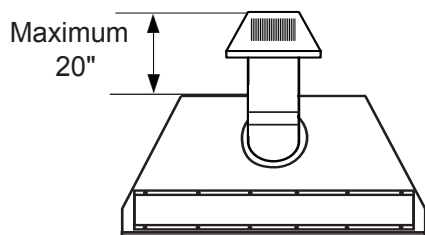
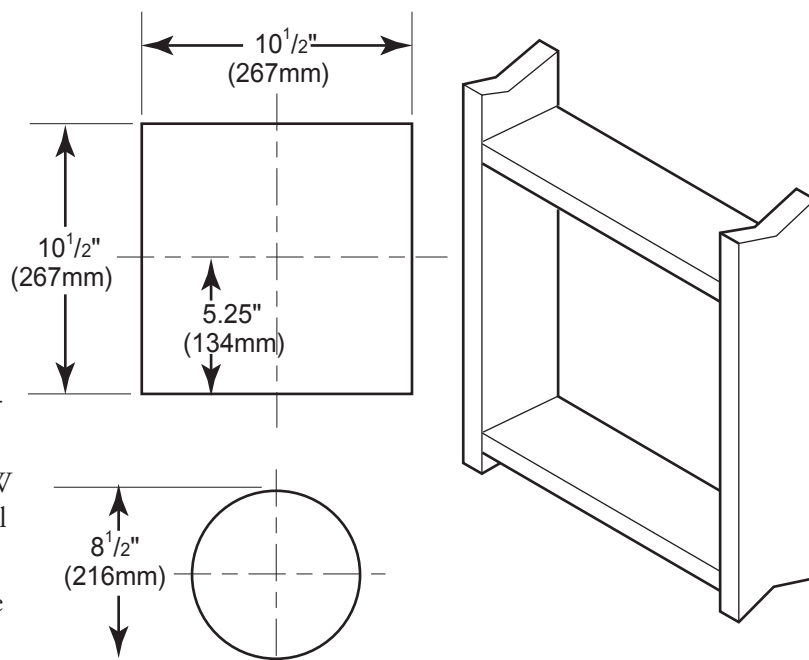

Figure 11 - Rear Vent Application, Maximum Horizontal Distance with two foot minimum rise
Figure 12 - Vent Opening Requirements
The maximum horizontal distance between the rear of the appliance and the outside of termination with 18" minimum rise is 20" (510 mm) See Figure 11.
1. Locate and cut the vent opening in the wall. For combustible walls first frame in opening. See Figure 11.
Combustible Walls: Cut a 10½"H x 10½" W (267mm x 267mm) hole through the exterior wall and frame as shown. See Figure 12.
3. Attach vent pipe assembly to the fireplace. Set fireplace in front of its permanent location to insure minimum clearances. Mark the wall for a 10½"H x 10½"W (241mm x 241mm) square hole (for noncombustible material such as masonry block or concrete, a 8½" [216mm] diameter hole is acceptable). See Figure 11. The center of the hole should line up with the center line of the horizontal rigid vent pipe end. Be sure to allow for minimum rise. Cut a 10-1/2"x10-1/2" (267mm X 267mm) square hole through combustible exterior wall (8½" [216mm] diameter hole if noncombustible). Frame as necessary. Allow ¼" minimum rise per foot. See Figure 12.
1. Establish vent hole through the wall. *See Figure 12, page 17.*